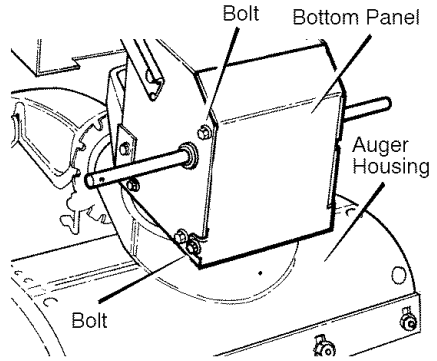

Figure 38
2. Stand the snow thrower up on the front end of the **auger housing** (see Figure 38).
4. Loosen the **bolts** on each side of the **bottom panel** (see Figure 38).
5. Install the **bottom panel** (see Figure 38).
2. Stand the snow thrower up on the front end of the **auger housing (4)**. (see Figure 38).